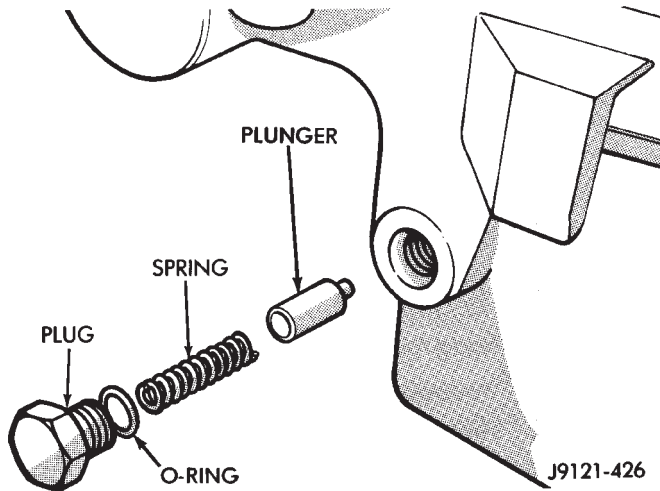

Fig. 21 Detent Component Removal
(31) Remove shift detent plunger, spring and plug (Fig. 21). Remove O-ring from plug after removal.